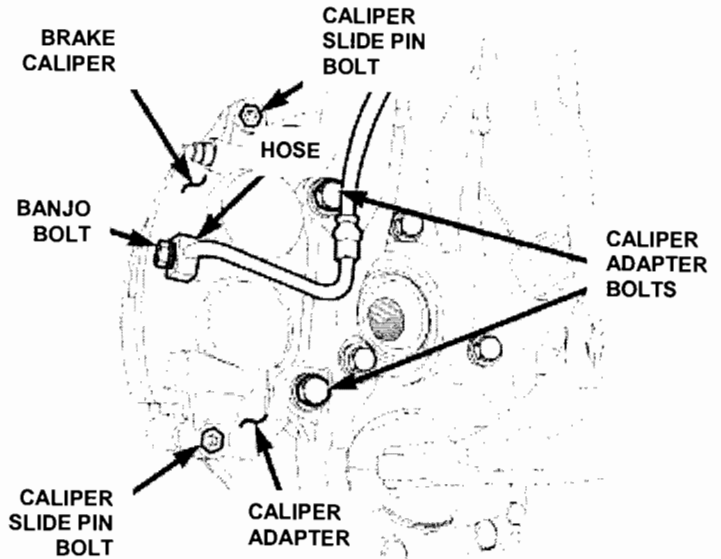

Figure 2
4. Remove and discard the brake hose banjo bolt and copper washers (Figure 2).
6. Remove the brake caliper slide pin bolts (Figure 2).
10. Install the caliper slide pin bolts and tighten to 32 ft. lbs. (44 N·m) (Figure 2).